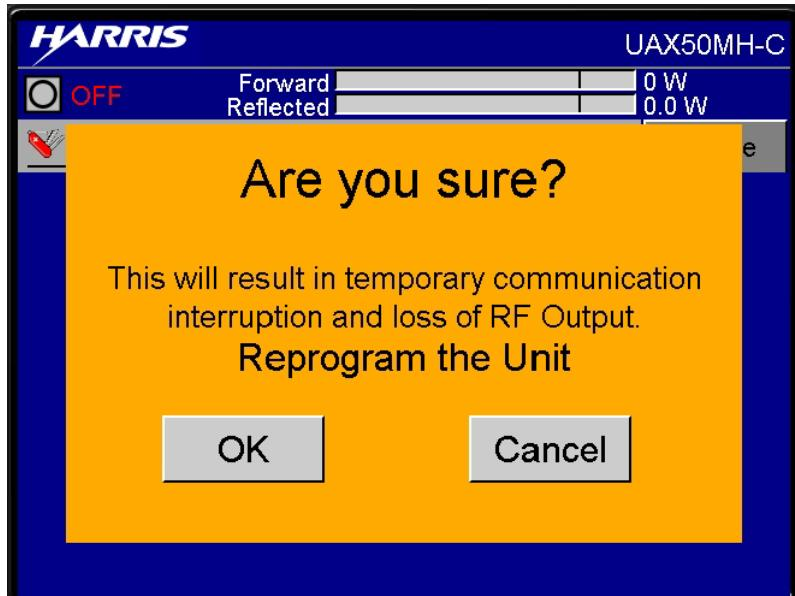

Figure 5-17 Are You Sure Window
STEP 10 The screen shown in Figure 5-17 will appear. Select OK to continue with programming.